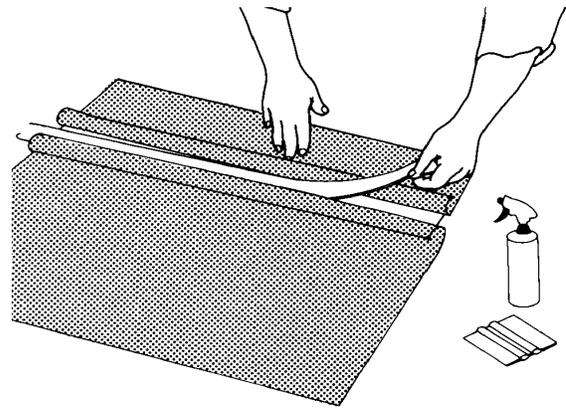

Figure 11. Removing the Taped Down Cutting Strip
- Remove the taped down cutting strip. See Figure 11.